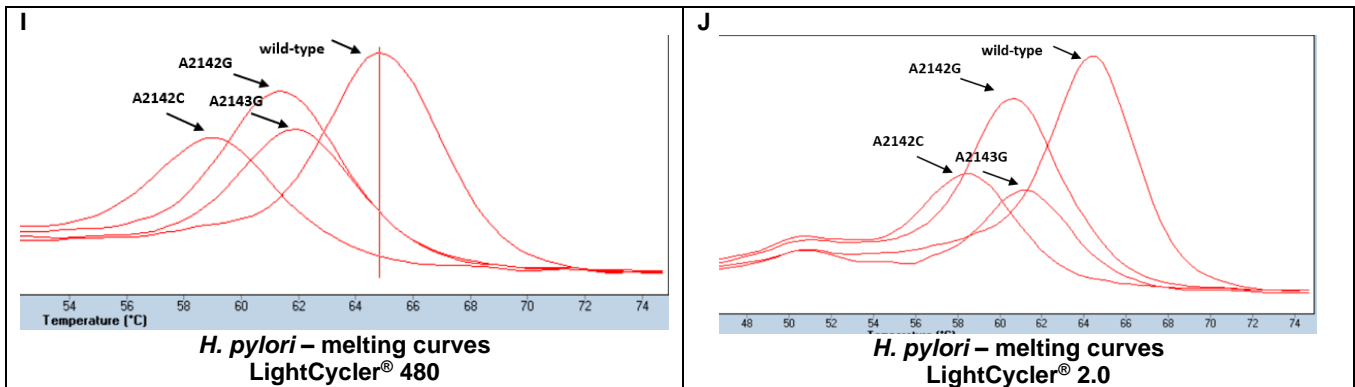

Fig. 1 Amplification and melt curves obtained with *H. pylori* DNA
Always perform analyses of stool samples in duplicates. In cases where only one out of two reactions is positive for *H. pylori*, the sample should be considered as positive. In some patients, a double infection with the wild type and a mutant may be present. In this case (Figure 1 G, H), the formation of a double peak in the melting curve occurs.
12.3. No peak separation due to mixed infection (Fig. 1 G, H)